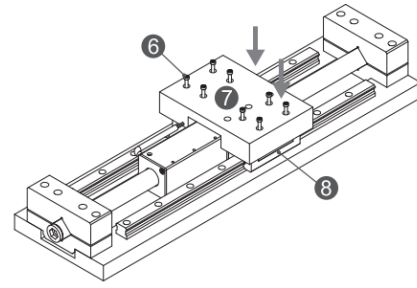

Figure5.2-11 Forcer base installation
- ▶ Use screws ⑥ to install the forcer base ⑦ onto the sliding block ⑧. (refer to Figure5.2-11)